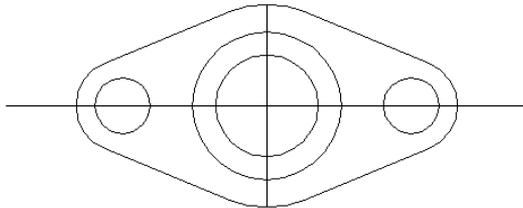

Figure 10-2: The completed mounting plate.
8. At the Specify first point of mirror line: prompt, pick the intersection ②. At the Specify second point of mirror line: prompt, pick the intersection ③. Press Enter again at the Delete source objects? [Yes/No] <N>: prompt.
9. The command completes the mounting plate. Save your drawing. It should look like Figure 10-2.